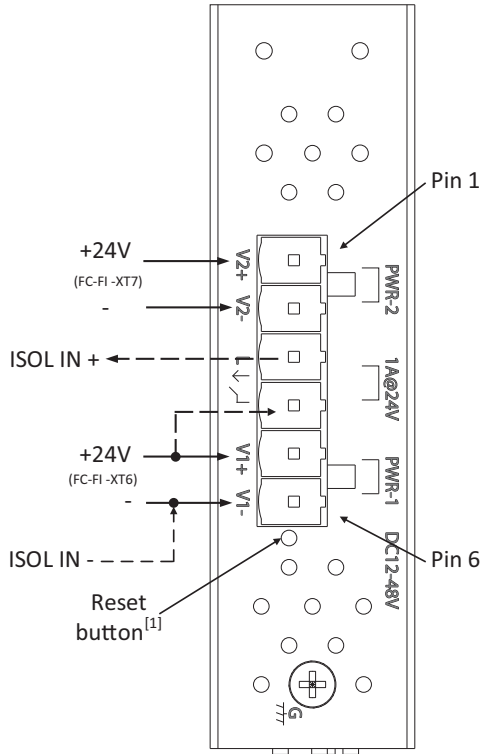

Fig. 3: POS800 connectors overview
- 5 The POS800 Ethernet switch also provides a volt-free relay contact to which you can connect the FC-FI isolated inputs (ISOLIN 1, ISOLIN 2) for fault monitoring. If required, connect a bypass wire from V1+ (pin 5) on the Ethernet switch connector to pin 4 on the same connector. Additionally, connect the wire from pin 3 on the Ethernet switch to ISOL IN+ on the FC-FI board and from V1- on the Ethernet switch to ISOL IN- on the FC-FI. Refer to Fig. 3. Use a minimum 16/0.2 wire (not supplied).